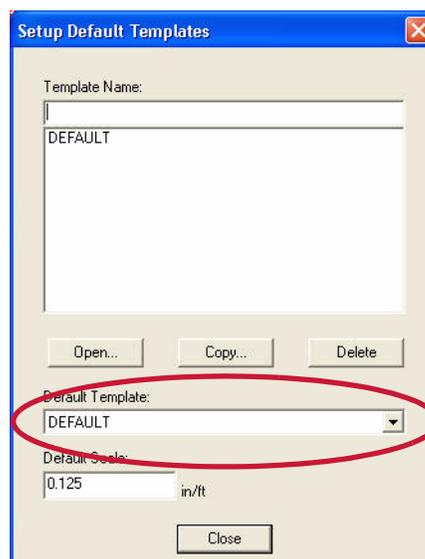

Figure 1-1 The Setup Default Templates dialog box
2. In the **Default Template** area, check that **DEFAULT** is selected, as shown in **Figure 1-1**.